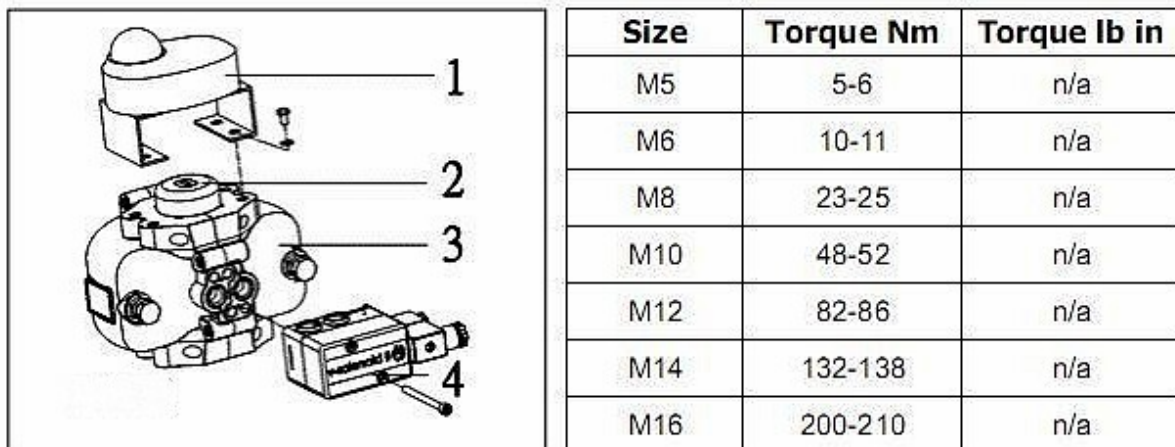

Fig 5.3 Max tightening torque
Screw in the four supplied M5 thread inserts to top of the actuator for full compliance to VDI / VDE 3845. Fit the switchbox and bracket (1) onto the actuator (3), using four screws (max. tightening torque. (Please refer to Fig 5.3).